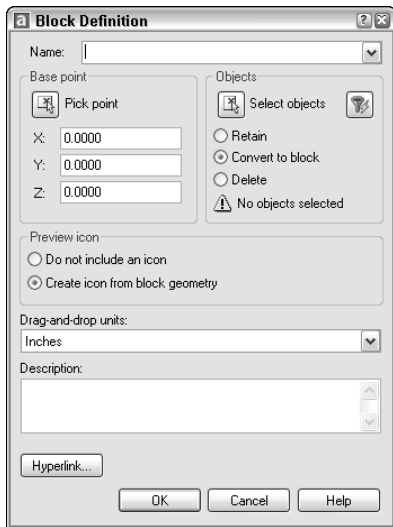

Figure 18-3: The Block Definition dialog box
1.  Choose Make Block from the Draw toolbar to start the BLOCK command and open the Block Definition dialog box, shown in Figure 18-3. The dialog box guides you through the process of defining a block.